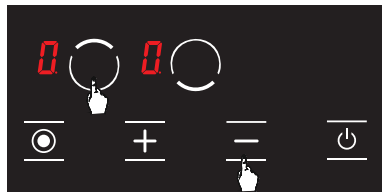

Figure 14
1. Press upper hob selection key () and minus key () simultaneously, you shall hear a short warning signal at this time. (see Fig. 14) Then, remove your fingers from the stove control panel.